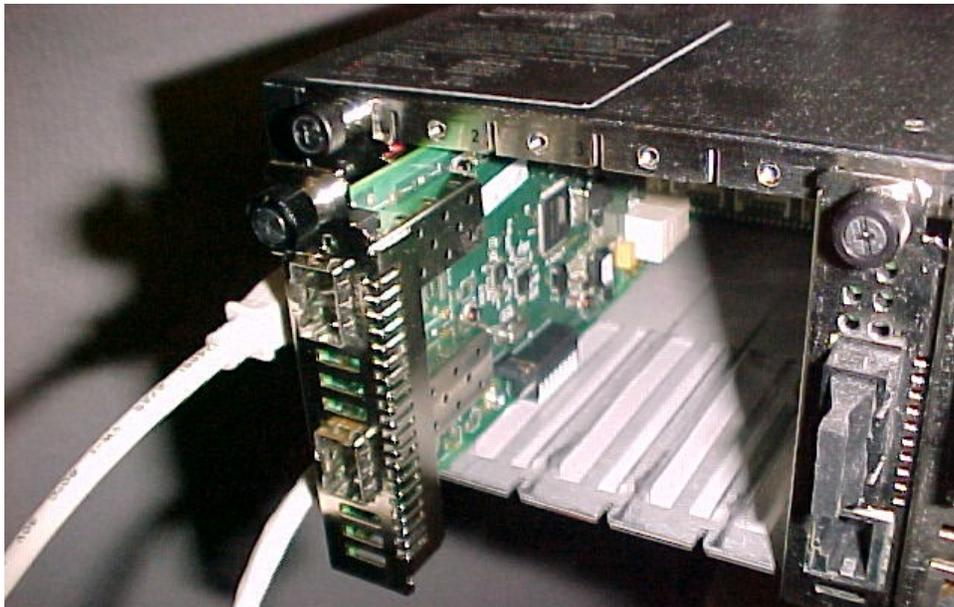

Figure 5: Chassis Installation
4. Push in and rotate clockwise the panel fastener screw to secure the C4110 to the chassis (Figure 5).